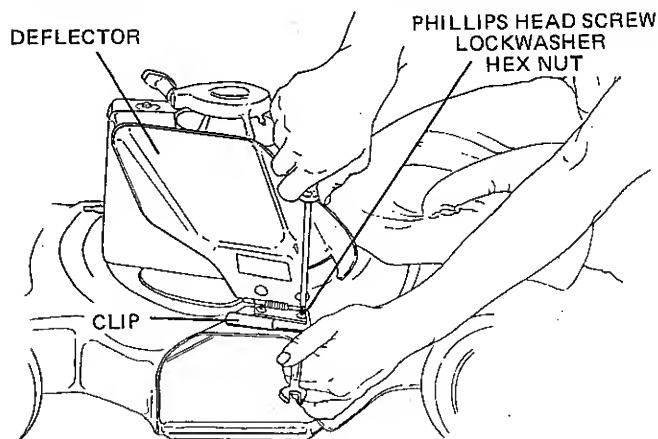

Figure 2
2. If the grass bag is used, the deflector should be mounted on top of the grass bag clip using two Phillips head screws, lockwashers and hex nuts (Figure 2). Use the holes nearest to hook for 22" mower and two farthest for 20" mower.